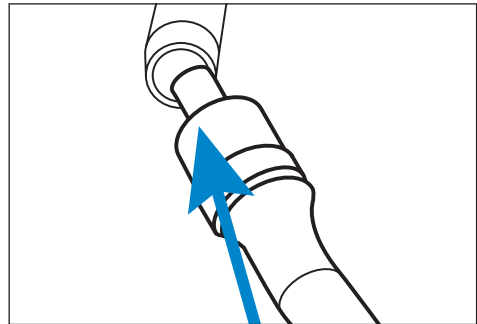

Figure 3
**IF USING GAS HOSE TO REFILLABLE CYLINDER:** Take the stove connector head of the hose and attach to the gas Regulator on the appliance, tighten up using fingers. See figure 3.